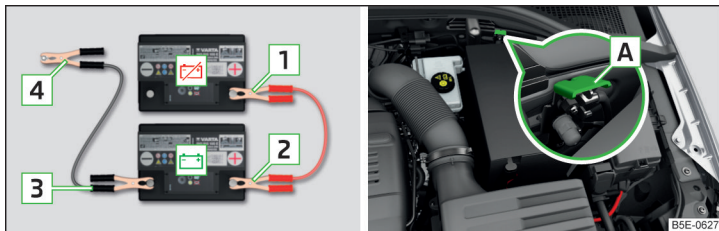

Fig. 335 Jump-starting: - discharged battery, - power-supplying battery/ground point of the engine for the START-STOP system
- › For vehicles **with** the START-STOP system, secure the clamp **4** to the ground point of the engine **A** » Fig. 335.